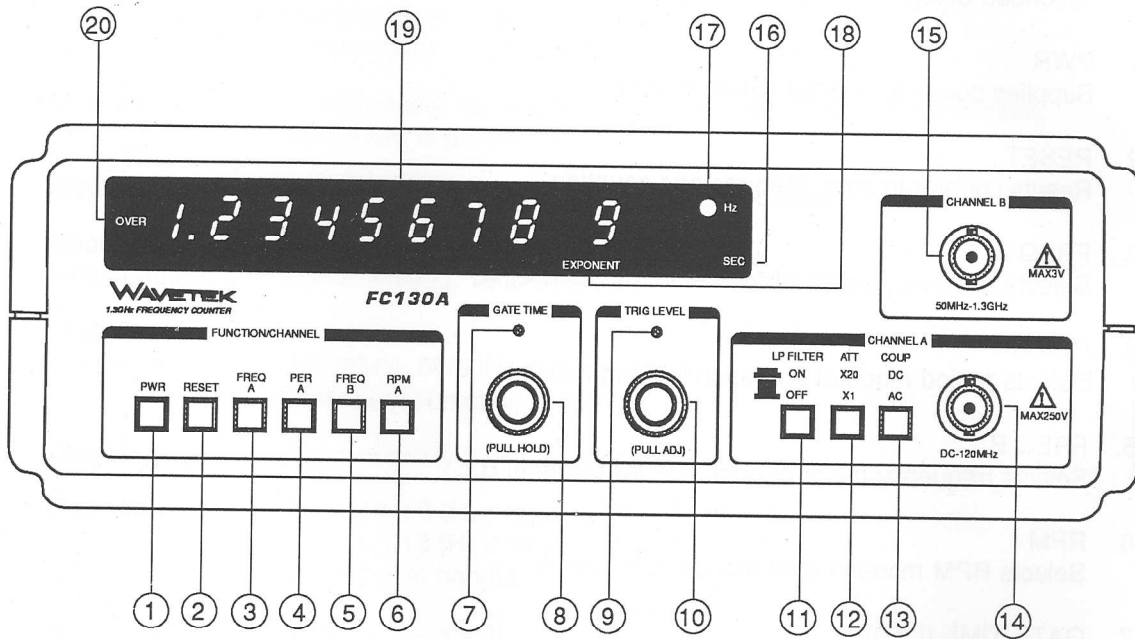

Figure 3.1
**Note:** Refer to figure 3-1 for details. Numbers in circles on Figure 3-1 reference the items described below.